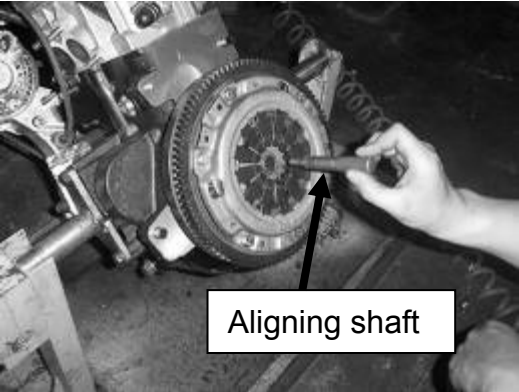
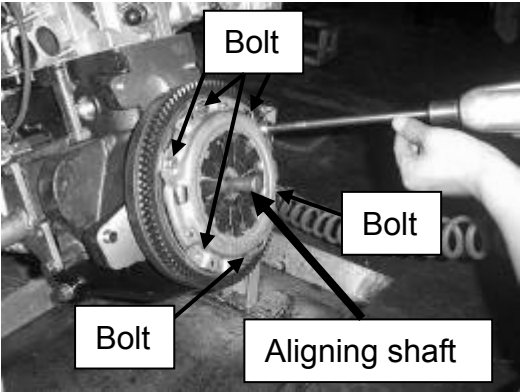

Figure 40
Figure 39
5. Insert the aligning shaft into hole (See Figure 40). Remove six bolts on the pressing plate of clutch (See Figure 39)